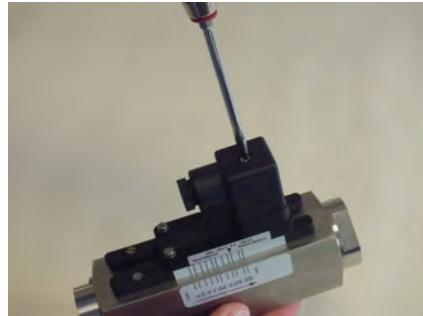

Fig. 21: Detach socket
1. Release the fixing screw (Fig. 21) from the socket
9. → Place the female socket onto the connecting plug and tighten the fixing screw (Fig. 21/1)